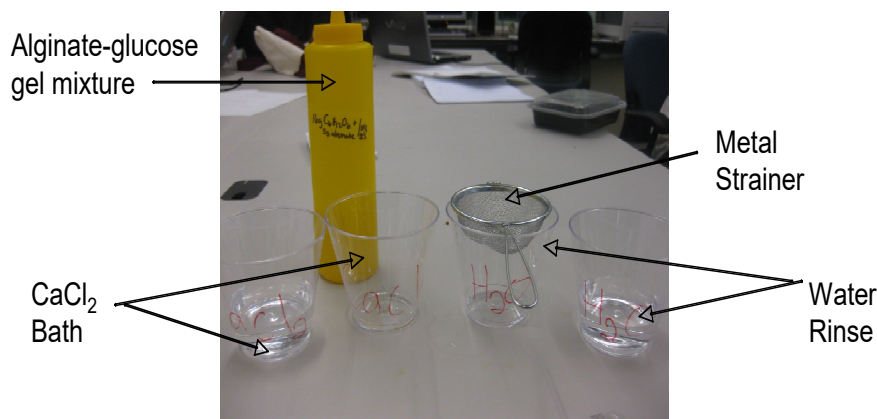

Figure 1. Student Workstation for Microcapsule formation
2. Your lab station will be equipped with the materials you will need to carry out this investigation (refer to Figure 1).